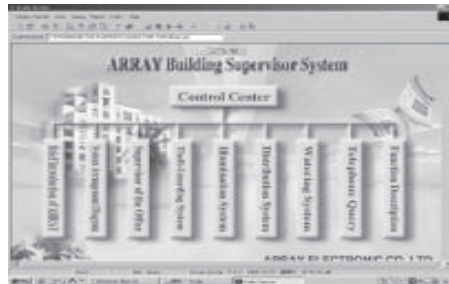

**Fig. 4-35 Select the Diagram**
2. Select the Input port of the FAB needed to define. Click Type and select the needed shape form as in Fig. 4-35.